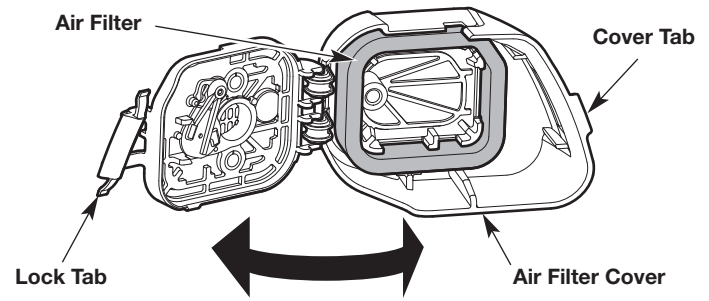

Fig. 22
1. Open the air filter cover: Hook your fingers behind the cover tab. To unlock the air filter cover, pull it to the left and away from the engine. This may require a firm pull. Swing the air filter cover to the right (Fig. 22).
2. Remove the air filter from inside the air filter cover (Fig. 22).
6. Reinstall the air filter inside the air filter cover (Fig. 22).
7. Close the air filter cover: swing the air filter cover to the left and press it closed until the lock tab snaps into place (Fig. 22).